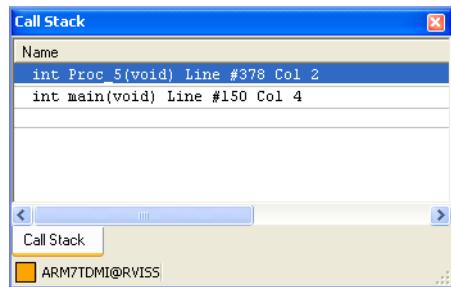

Figure 8-6 Example Call Stack view for dhystone
4. When execution stops, select **Call Stack** from the **View** menu, to display the Call Stack view, if it is not already visible. Figure 8-6 shows the Call Stack view for the Dhystone image.